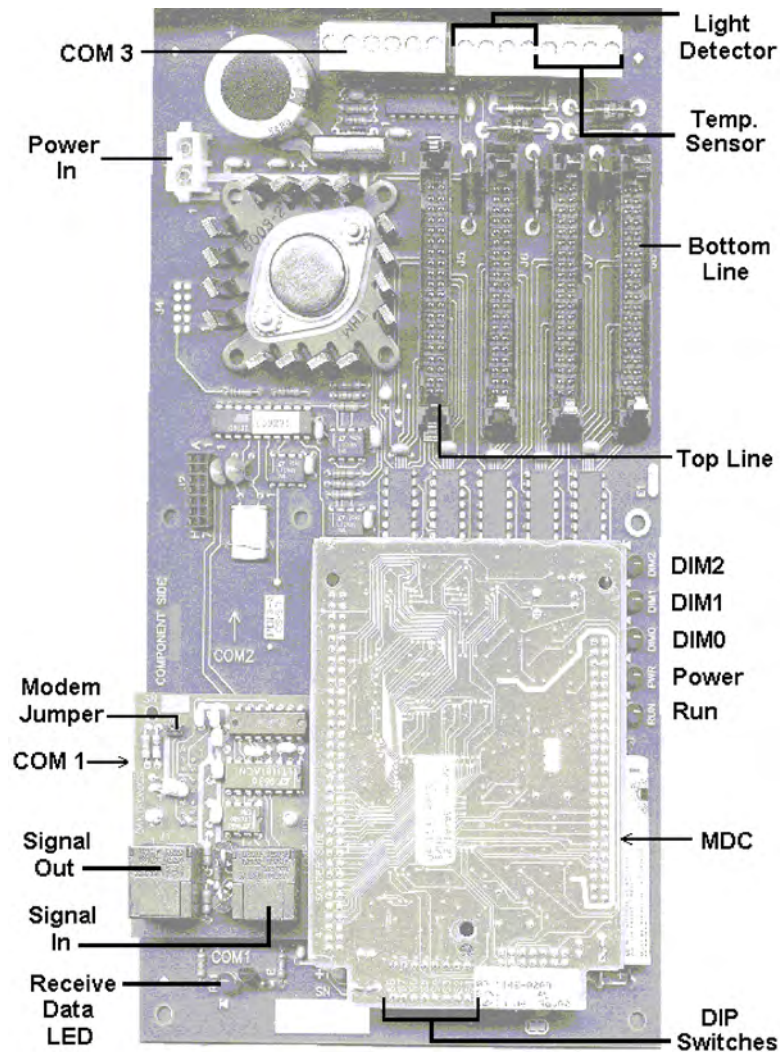

Figure 11: Controller Board
The controller board contains three (3) DIM, one (1) Power, one (1) RUN, and one (1) Receive Data LED's. They are located as shown in **Figure 11**.
Before a display can be run in a sign network, it must have an "address." The display address can be set by the use of "DIP" switches located on a PC board known as the MDC. The MDC is the circuit card mounted in the lower right corner of the controller board (as seen in **Figure 11**).
Locate the DIP switches on the MDC. They should be on the bottom end of the card (if it is oriented as shown in **Figure 11**). Refer to **Figure 12** for a picture of the DIP switches.